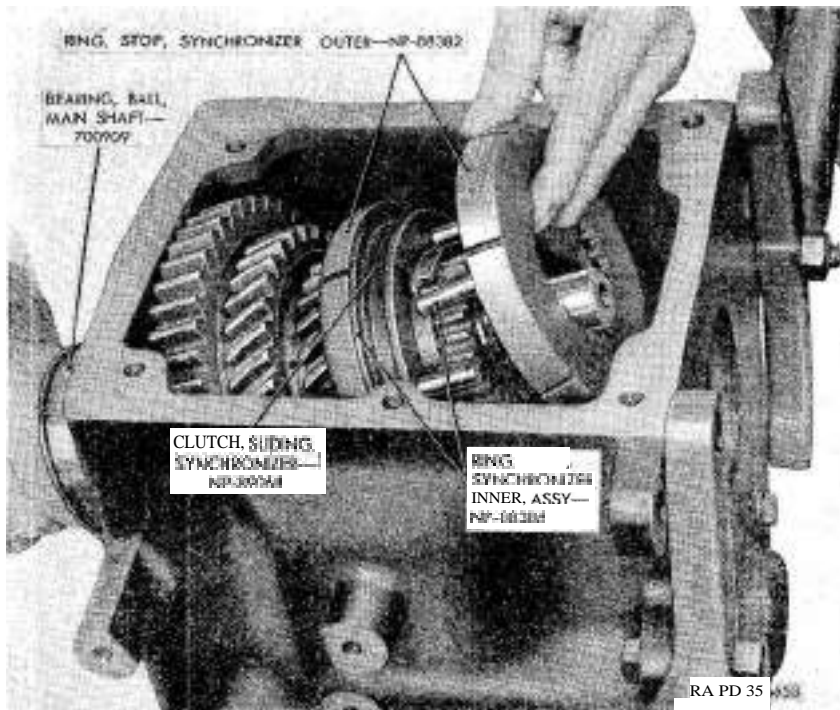

Figure 101. Removing synchronizers and synchronizer sliding clutch.
stop ring assembly (H), synchronizer sliding clutch (J), synchronizer inner stop ring assembly (K), and synchronizer outer stop ring (L) . Refer to figure 101 for removal procedures.